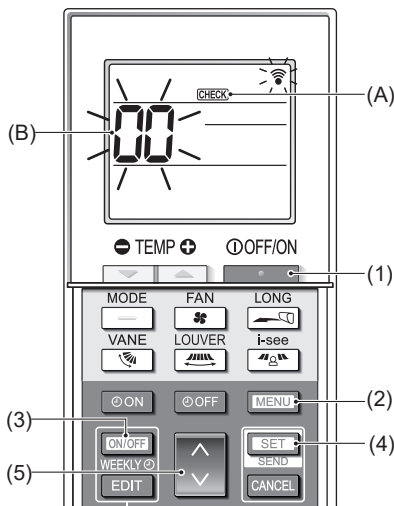

Fig. 7-6
■ Self-check (Fig. 7-6)
- Press the button (1) to stop the air conditioner.
- If the weekly timer is enabled (WEEKLY is on), press the button (3) to disable it (WEEKLY is off).
- Press the button (2) for 5 seconds.
- CHECK (A) comes on and the unit enters the self-check mode.
- Press the button (5) to select the refrigerant address (M-NET address) (B) of the indoor unit for which you want to perform the self-check.
- Press the button (4).
- Press the button (1).
- CHECK (A) and the refrigerant address (M-NET address) (B) go off and the self-check is completed.